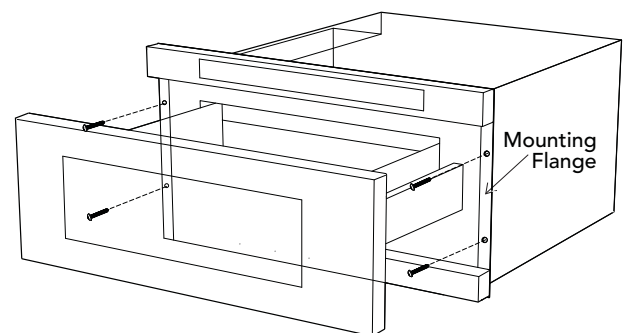

FIGURE 5A
3. Slide the drawer all the way until the mounting flange is flush with the face of the cabinet. See FIGURE 5A.
4. Open the drawer. Using the 4 holes on the drawer as a template, pre drill the cabinet using a 1/16" bit. See FIGURE 5A.